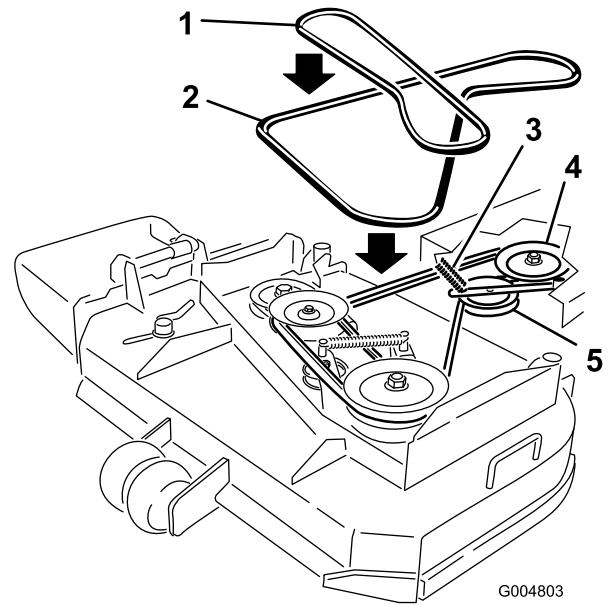

Figure 39
6. Roll the belt off of the center pulley on the mower deck (Figure 39). Use caution when removing the belt as tension will increase because of the spring loaded idler pulley.
7. Remove the belt from the engine pulley and the spring loaded idler pulley (Figure 39).
8. Install the new belt onto the engine pulley and spring loaded idler pulley (Figure 39).
9. Roll the belt onto the center pulley on the mower deck (Figure 39). Use caution when install the belt as tension will increase because of the spring loaded idler pulley.